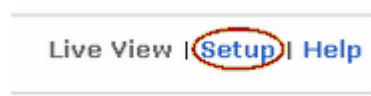

Figure 6.1-13 The Setup section in the Web-server feature menu of a network device
3. Open the **Setup** section in the Web-server feature menu of the Web browser home page (Figure 6.1-13).